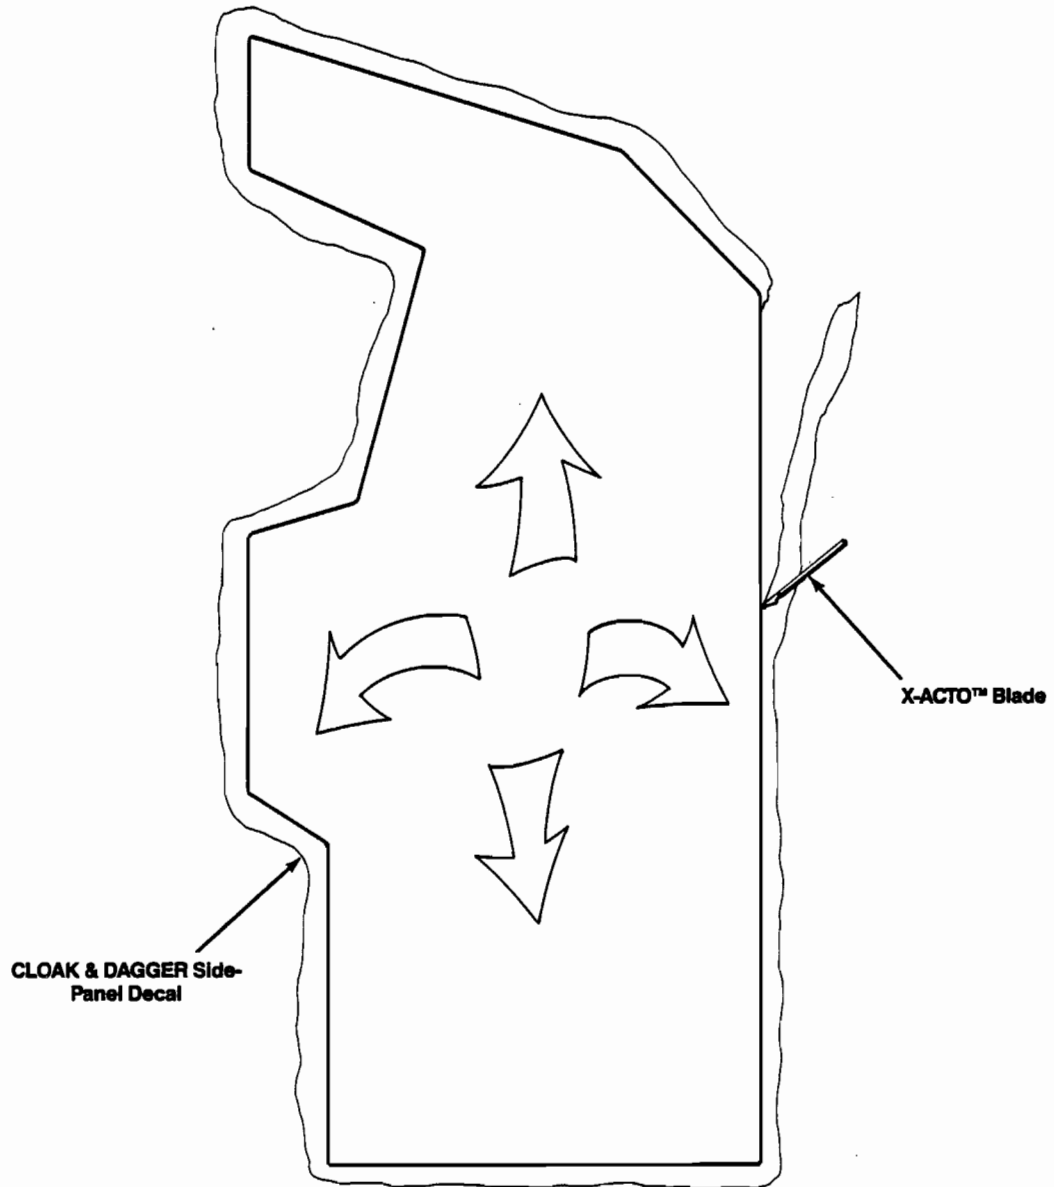

Figure 5 CLOAK & DAGGER Decal Installation
6. Gently lay the decal, sticky side down, in the center of the wet surface of the game cabinet (see Figure 5). Position the decal to ensure that the color graphics are centered on the side of the cabinet.